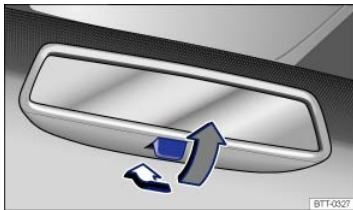

Fig. 88 Manually adjustable inside mirror.
- To adjust to non-glare visibility, move the lever so that it points forward ⇒ Fig. 88.